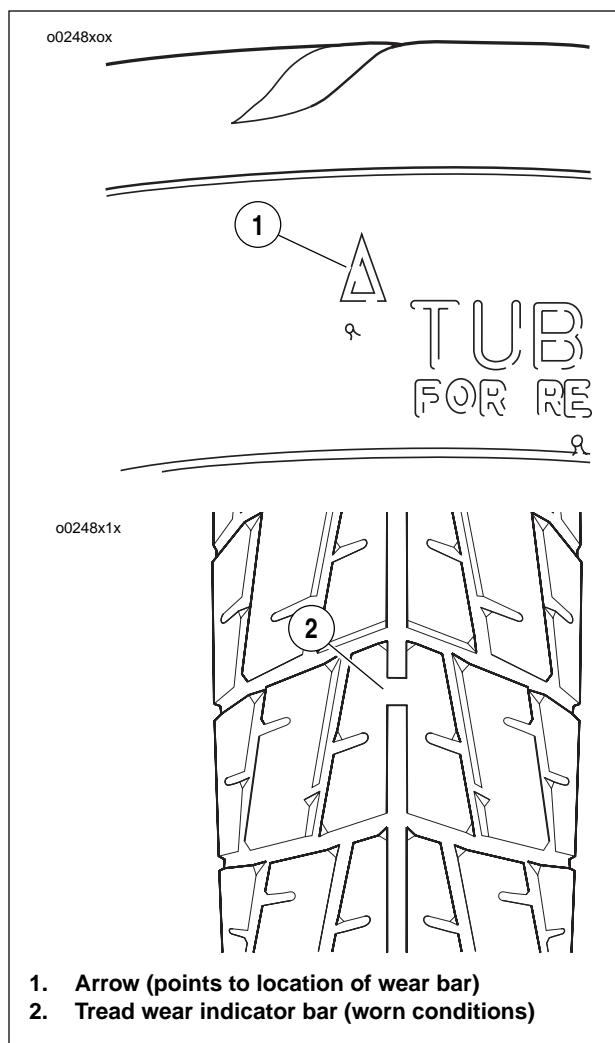

Figure 1-11. Tread Wear Indicators
See Figure 1-11. Tread wear indicator bars (2) will appear on tire tread surfaces when 1/32 inch (0.79 mm) or less of tire tread remains. Arrows (1) on tire sidewalls pinpoint location of wear bar indicators. Always remove tires from service before they reach the tread wear indicator bars (1/32 of an inch [(0.79 mm)] tread pattern depth remaining).